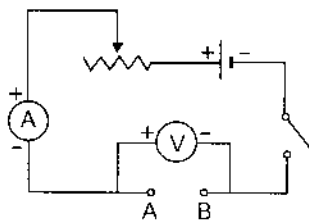

FIGURE 1
Write the instructions to measure the total resistance of resistors in parallel, using the circuit in figure 1.
Connect up the apparatus as shown in figure 1.
2. Connect up the apparatus as shown in figure 1.
————→ THE APPARATUS WAS CONNECTED UP AS SHOWN IN FIGURE 1.
1. Connect up the apparatus as shown in figure 1.
—→ THE APPARATUS WAS CONNECTED UP AS SHOWN IN FIGURE 1